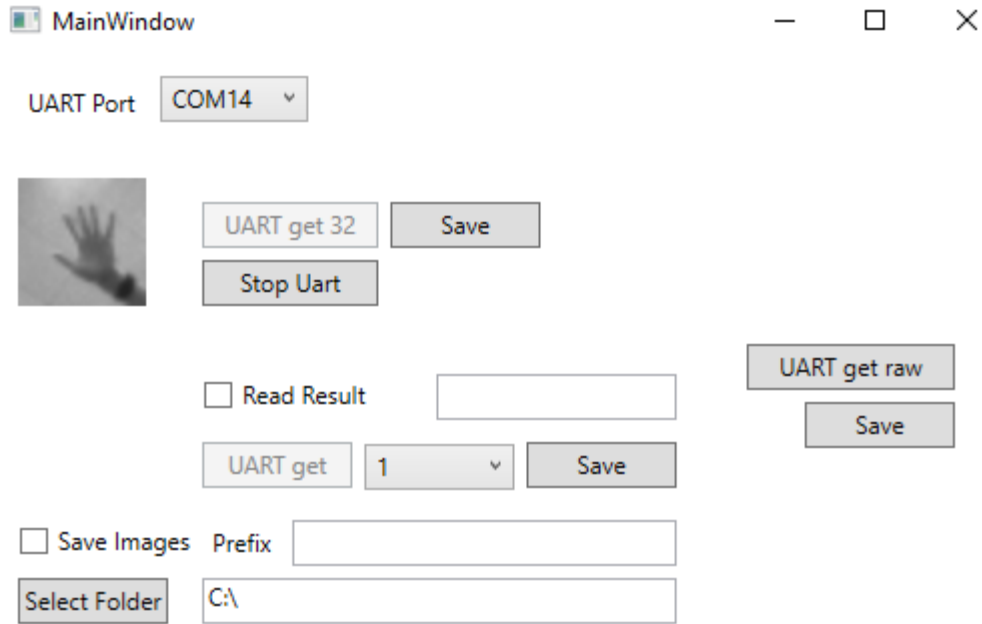

Figure 5.2. Uart Example of Open Hand
- d. Align your hand to the camera. Refer to Figure 5.2 for an example.